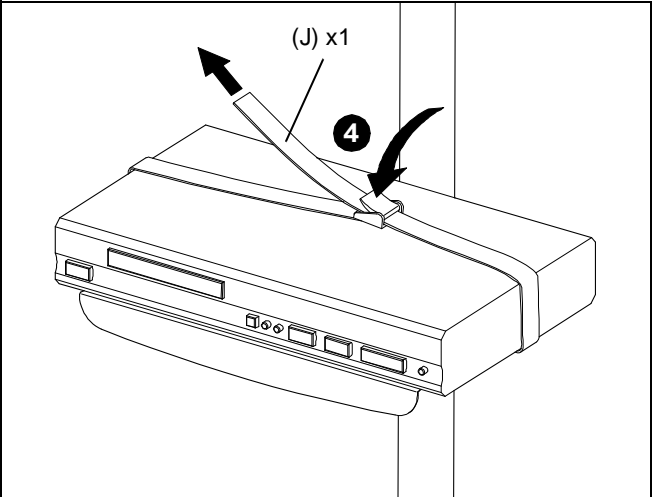

Figure 7
- 4. Pull strap (J) until tight around equipment and press clasp closed to secure. (See Figure 7)